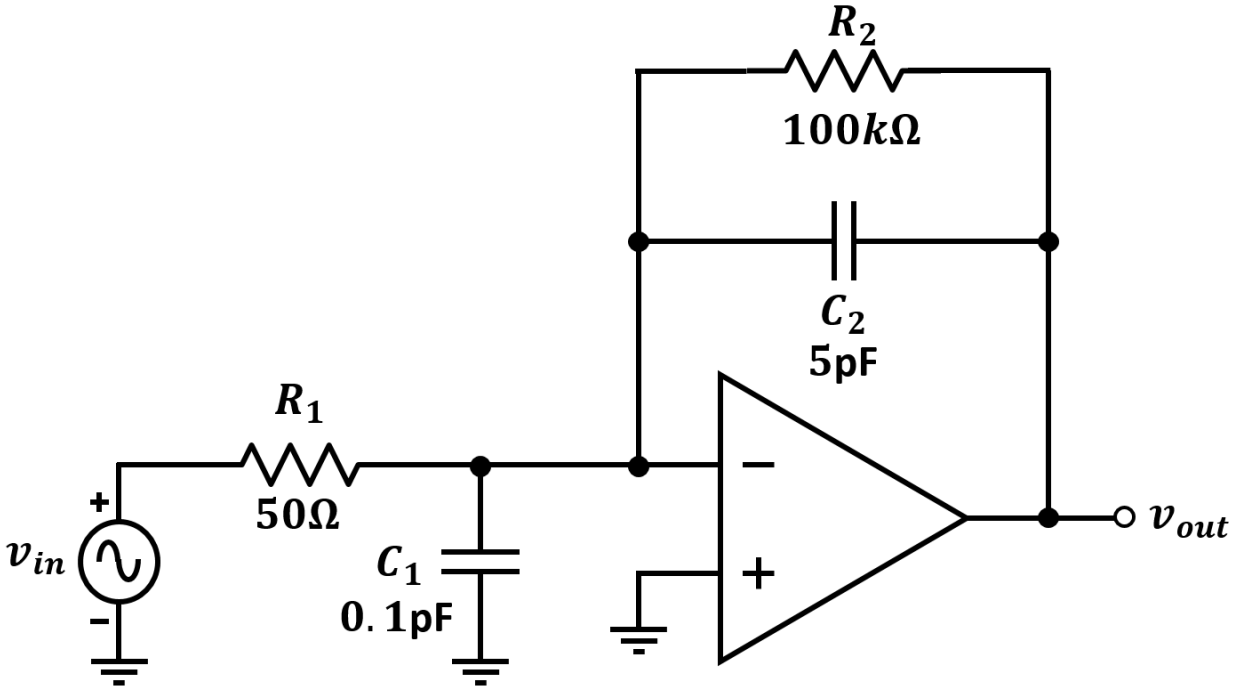

Figure PS1.2
2. This problem intends to jog your memory of op amp circuit analysis, which some of you might not have done for ages. We will not actually be using op amps seriously in the course until about the 10th week, so if you have forgotten them, here is your chance to start remembering. When considering the op amp circuit in Figure PS1.2, assume the op amp is ideal.